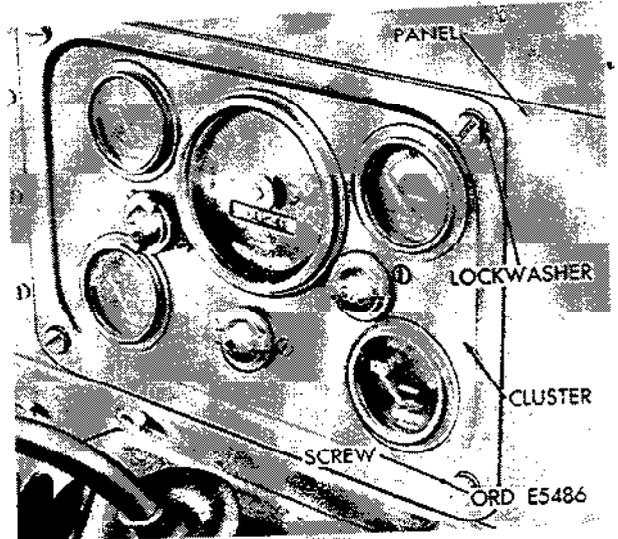
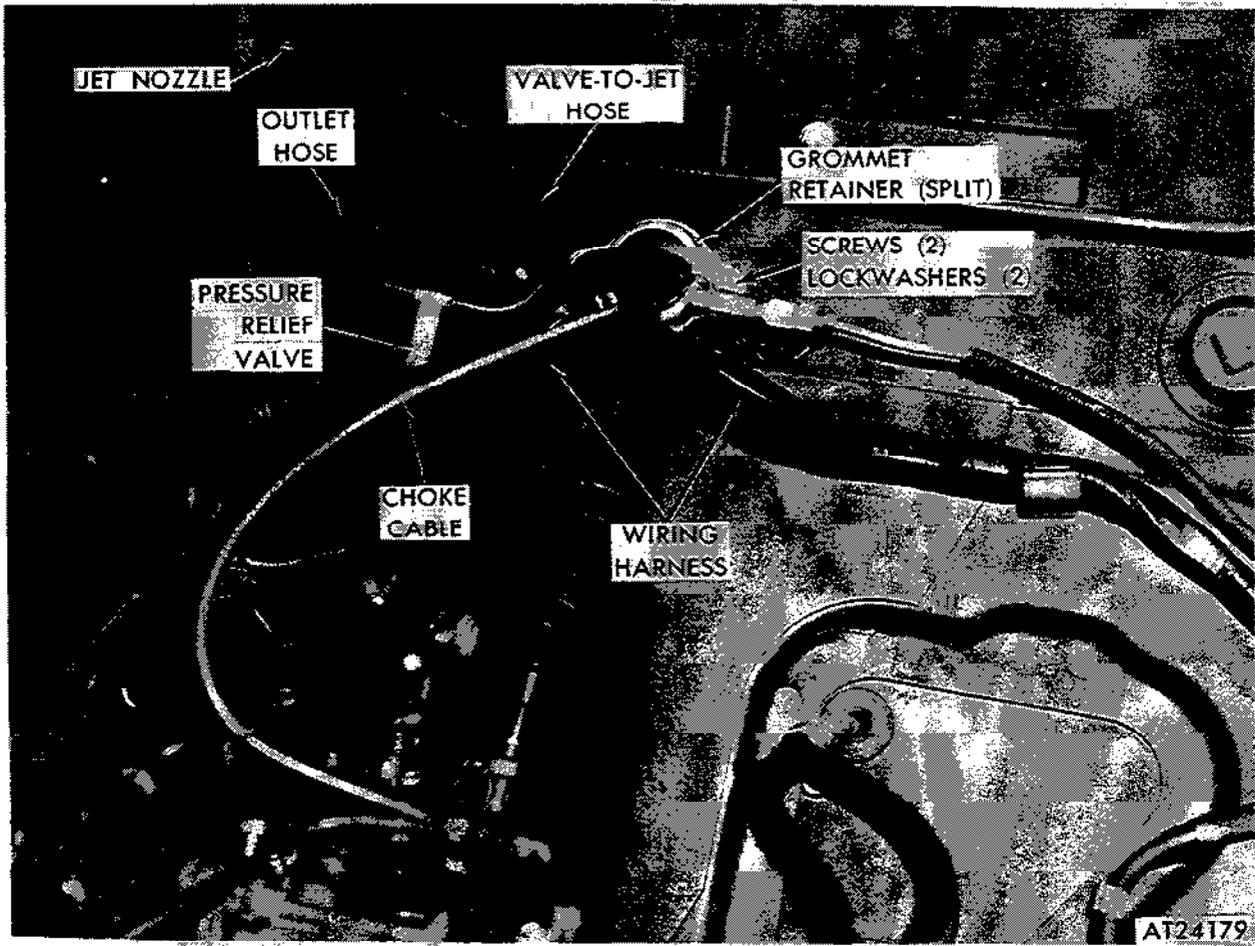

Figure 2-233. Instrument cluster removal.
Figure 2-248. Removing or installing grommet and its retainer to firewall on M151A2, M825, and V718A1 vehicles.
(19) Remove four screws and lockwashers securing instrument cluster to dash panel and pull instrument cluster away from panel (fig. 2-233).
(15) Remove two screws and lockwashers securing grommet retainer. Remove retainer (fig. 2-248).
(16) Pull rubber grommet away from firewall, and push choke cable and its housing through firewall.
(17) Remove four screws and lockwashers securing instrument cluster assembly to dash panel (fig. 2-233).